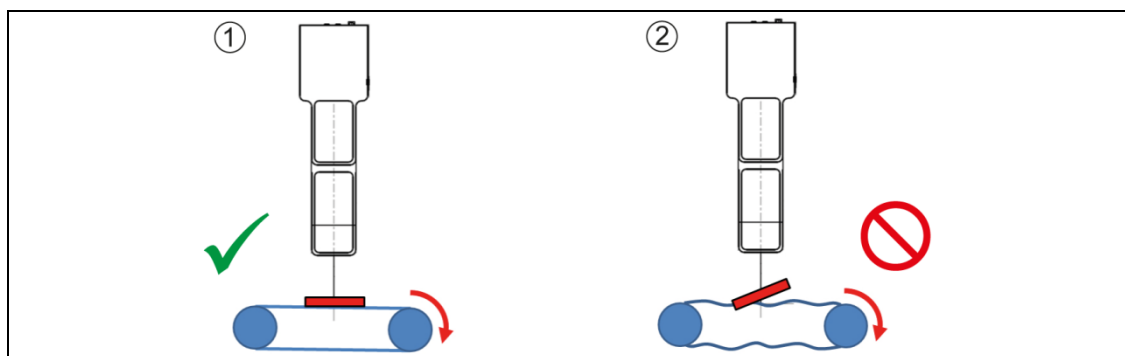

Fig. 14: Conveyor belt adjustment: minimize vertical oscillations
- Minimize vertical oscillations by adjusting the belt tension (see Fig. 14, p. 39).